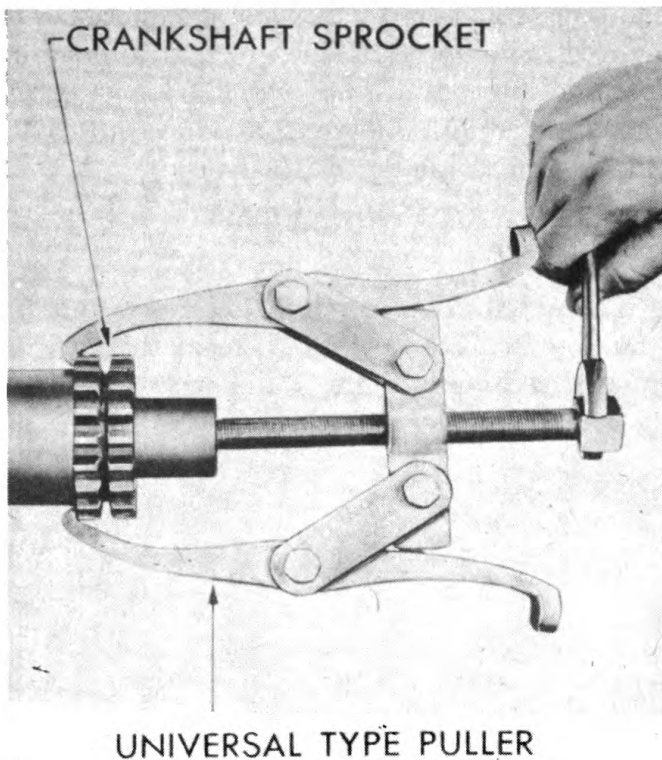

Figure 84—Crankshaft Sprocket Removal
86. REMOVE TIMING CHAIN AND SPROCKETS—(Figure 84.)